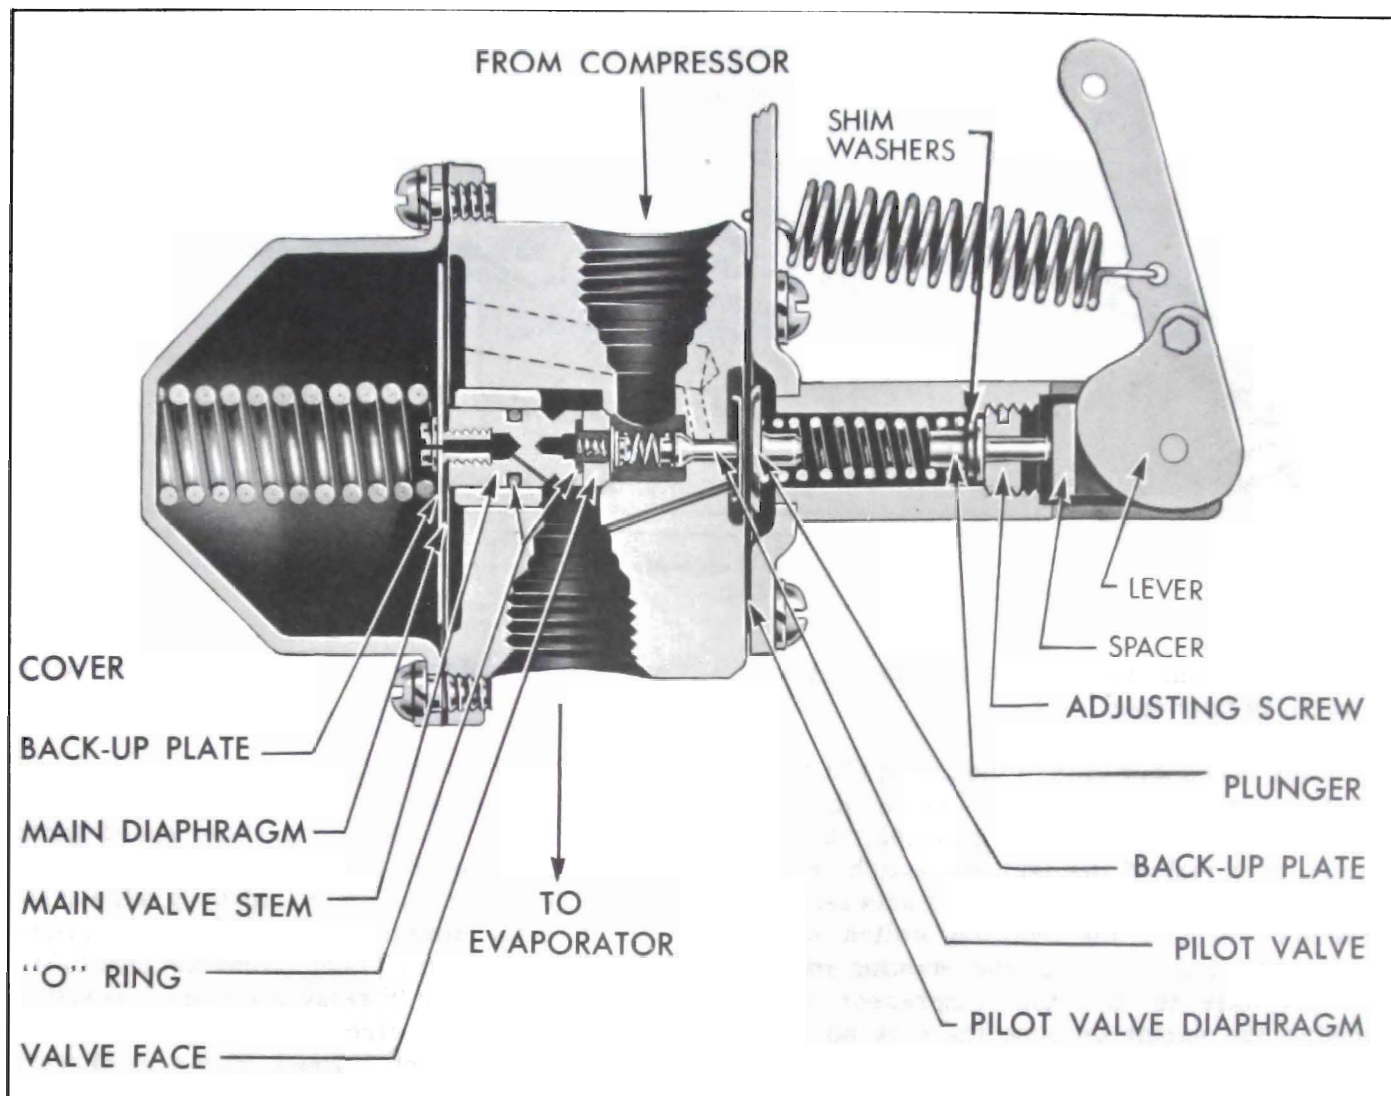

Figure 11-17—Hot Gas By-Pass Valve - Sectional View
Hot gas valve outlet pressure refrigerant gas is transmitted to the area between the pilot diaphragm and the main valve body through a drilled passage from the valve outlet connection. See Figure 11-17. Valve outlet pressure gas is also transmitted to the inside of the cover through a drilled passage from the evaporator outlet, to the hollow main valve stem and through a hollow screw (which secures the back-up plate and main diaphragm to the main valve stem) and into the cover to assist the main spring in applying pressure against the main valve stem assembly.
CAUTION: Make sure the pilot valve stem enters its seat in the valve body. The pilot valve stem should protrude from the valve body as shown in cross section of valve, Figure 11-17.
13. Place diaphragm cup over end of the pilot valve stem which protrudes from valve body as shown in Figure 11-17.